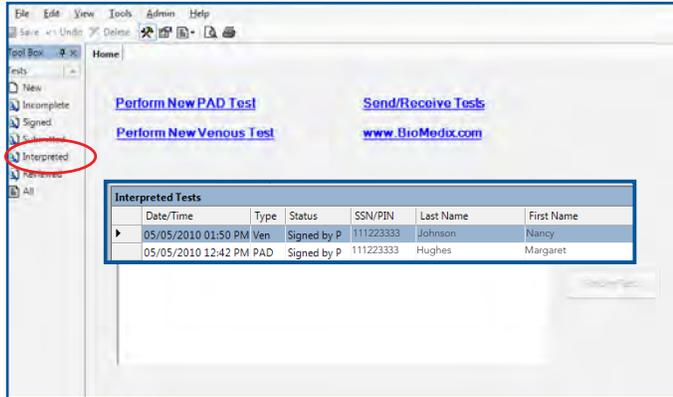

FIGURE 2.19 - Tests - Interpreted Tests
3. Under the “Tests” subdirectory list, click “Interpreted” to display all interpreted studies. Select a study by patient name, and double-click to the left of that name to display it (Figure 2.19).